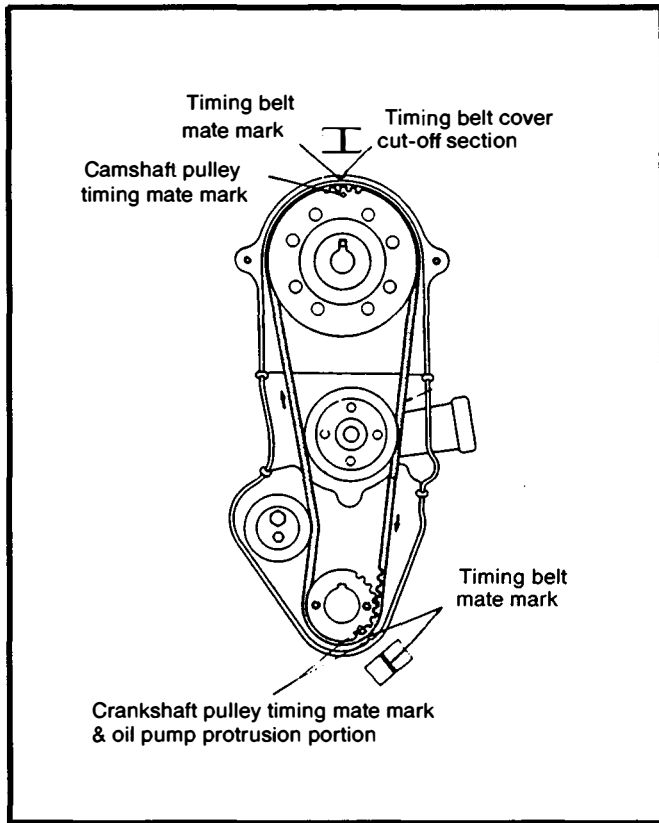

Figure 53.
1. Align the cut-off section of rear timing belt cover and the camshaft pulley timing mark. See Figure 53.
2. Align the timing mark on the crankshaft pulley with the timing mark on the oil pump case. See Figure 53.
3. The timing marks on the belt must be aligned with the marks on the respective pulley and the marks on the timing cover and oil pump case. See Figure 53.